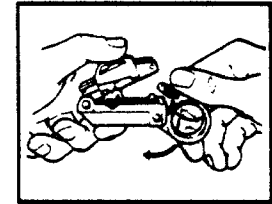

Figure 3
- A. Adjust slide to pos. 4 or 5.
- B. Open tool by rotating locking latch downwards (Fig. 3).